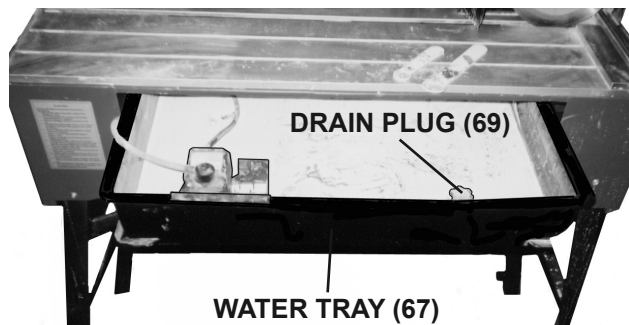

FIGURE 9
1. Fill Water Tray (67) with enough clean, cold water to submerge 3/4 of the Water Pump. Do not overflow the Tray. (See Figure 9.)
2. Prior to draining the Water Tray (67) first place a large bucket under the Drain Plug (69). Remove the Drain Plug (69) located at the bottom of the Water Tray. Once drained, replace the Drain Plug. **NOTE:** You may also pull out the Water Tray from the Tile Saw and pour out the water. (See Figure 9.)
4. Check to make sure the water level in the Water Tray (67) is at the proper level (the Water Pump (7) should be about 3/4 submerged). Then slide in the Water Tray completely. (See Figure 9.)
5. Plug the Power Cable (20) into the nearest 120 volt, grounded, electrical outlet, making sure to form a "drip loop" with the Power Cord. (See page 10.)